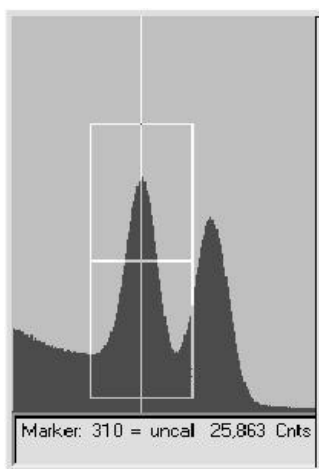

Fig. 12. The Rubber Rectangle's Crosshair.
- Drag the mouse diagonally across the area of interest. As you drag, the mouse will be drawing a reverse-color rectangle bisected by the marker line to form a “crosshair” (Fig. 12). This makes it easy to select the center channel in the area of interest — for instance, the center of an ROI you wish to mark or unmark, a portion of the spectrum to be summed, or a peak for which you want detailed information.